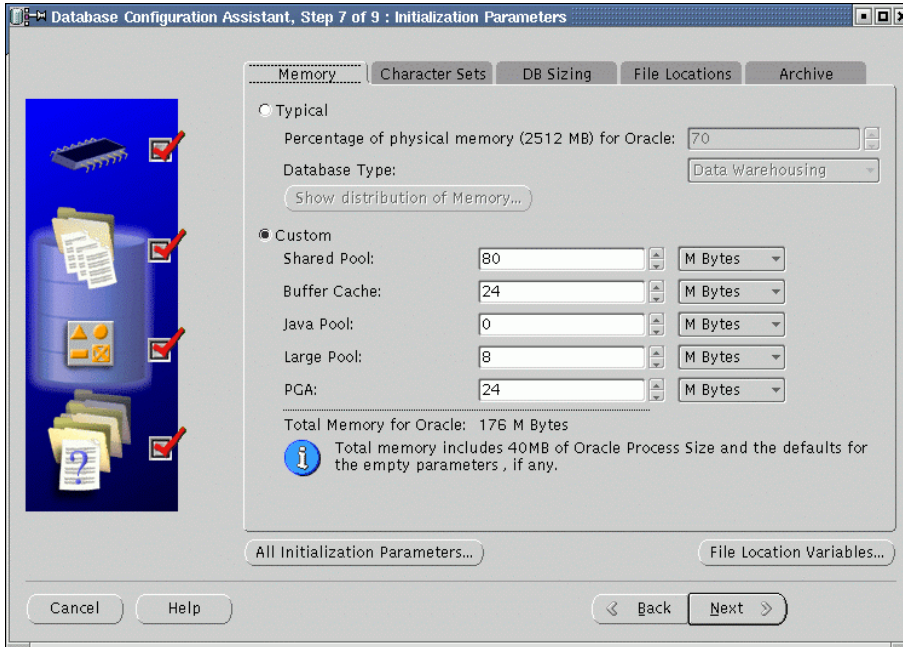

Figure 84. dbca initialization parameters
- The next screen displays initialization parameters (Figure 84). Click the File Locations tab. Note that **Create server parameters file (spfile)** is checked by default. **Server Parameters Filename** should point to the correct datafile (symbolic link for spfile). If not, either DBCA_RAW_CONFIG is not set correctly or the mapping file contains errors. Click on the other tabs and verify all the settings are according to your requirements. When this is done, click **Next** to continue.